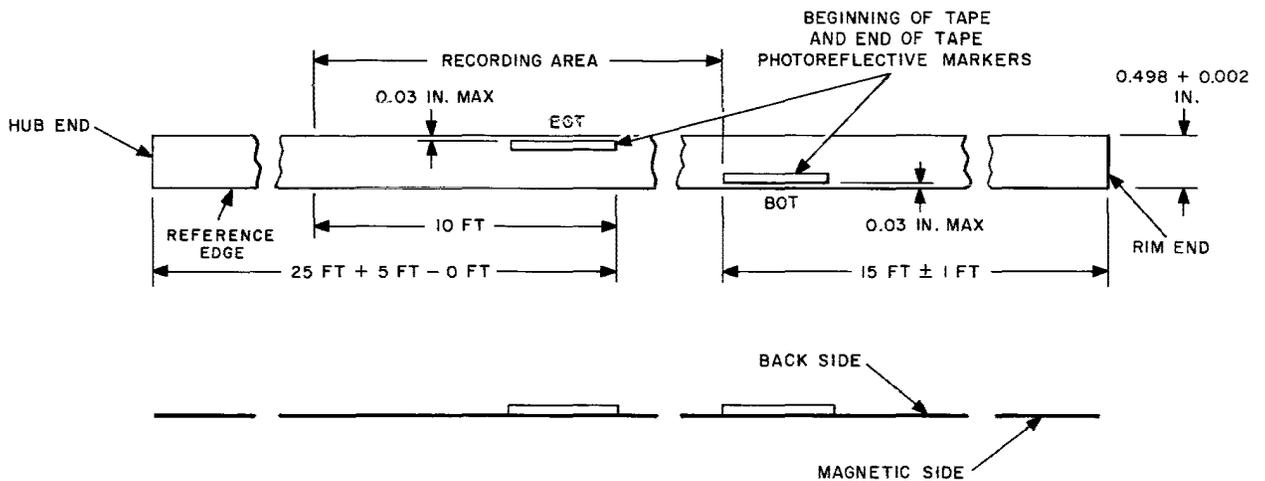

Fig. 7—Photorefective Tape Marker Placement (USASI Standard)
2.09 Photosense Head: The photosense head shall sense the beginning-of-tape (BOT) marker and the end-of-tape (EOT) marker. The dimensions and location of the photorefective tape markers are shown in Fig. 7. Check requirement as follows.